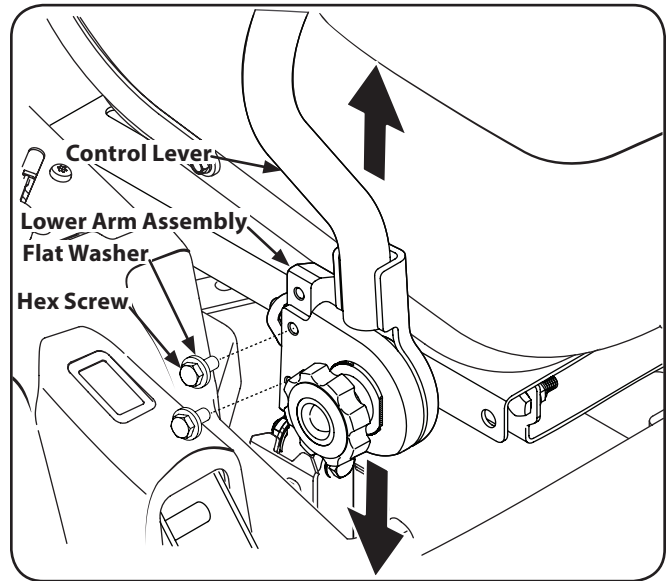

Figure 6-5
1. Remove the hex screws and flat washers securing the control lever to the lower arm assembly. Refer to Figure 6-5.